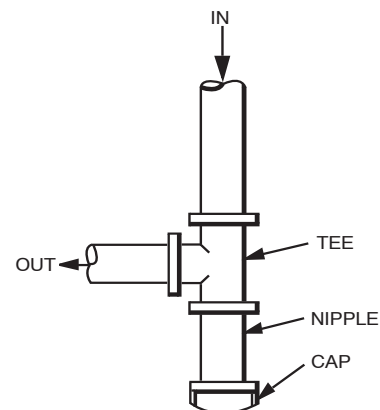

Fig. 10 - Sediment Trap
4. Install sediment trap in riser leading to heating section (See Fig. 10). This drip leg functions as a trap for dirt and condensate.